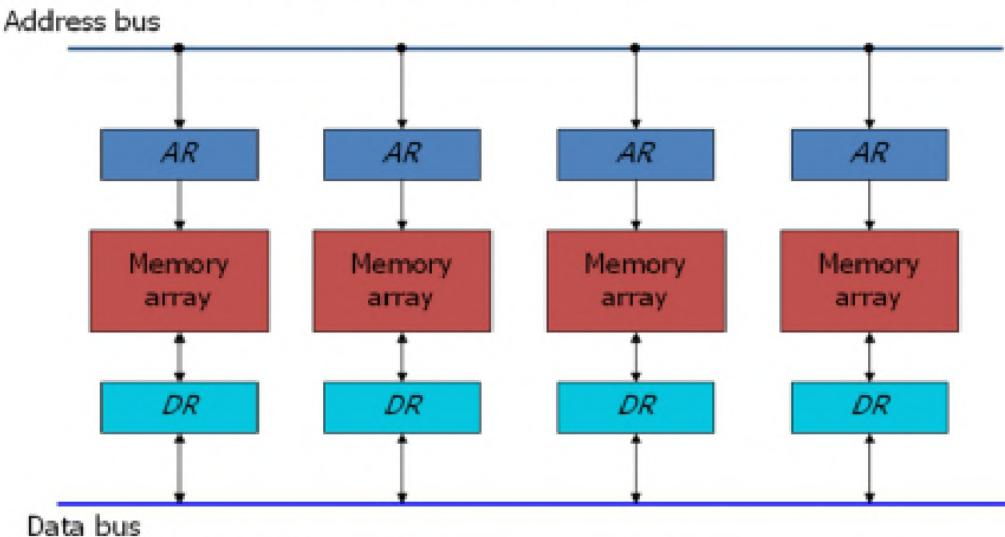

Fig 4-13: Multiple module memory organization
- Fig. 4-13 shows a memory unit with four modules.